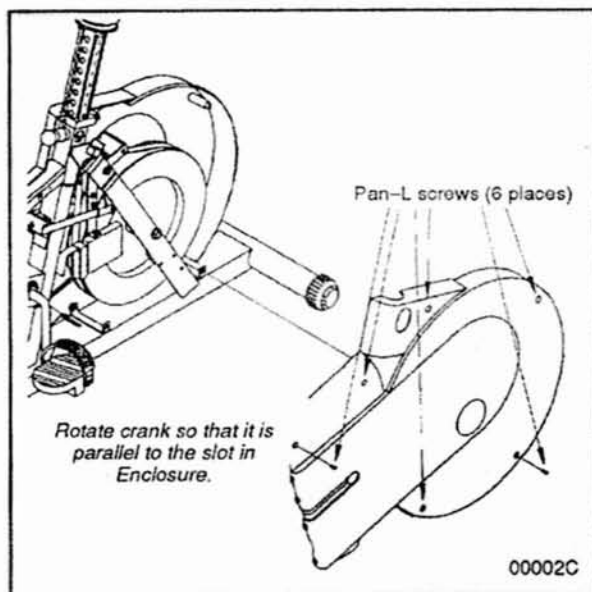

Figure 5.1 Left Side Enclosure.
3. Remove the six 9/16" Pan-L screws securing the left side enclosure. Lift the left side enclosure off. See Figure 5.1.